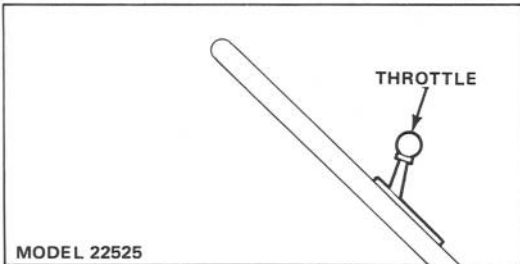

Figure 5
3. **STARTING (Model 22525)** — Move throttle to **CHOKE**. Pull fingertip starter out slowly until positive engagement results; then pull vigorously to start the engine. Regulate throttle as desired when engine starts (Fig. 5). When temperature is near 40°F, a few extra pulls may be required because the engine needs priming.